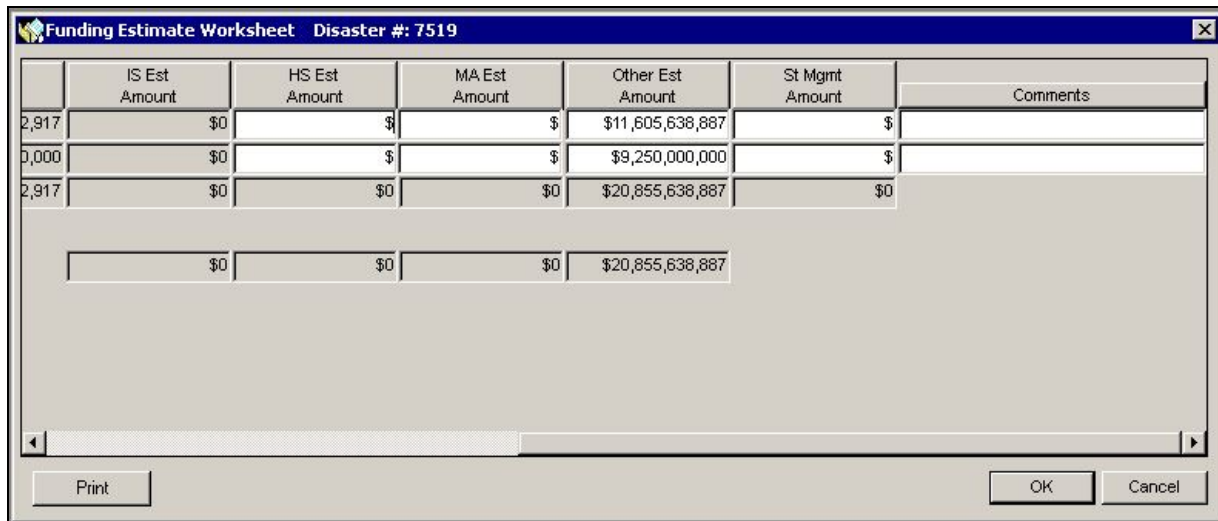

Figure 5-7: Funding Estimate Worksheet – Right Side
9. The right side of the worksheet (Figure 5-7) displays the fields where you can enter financial data.